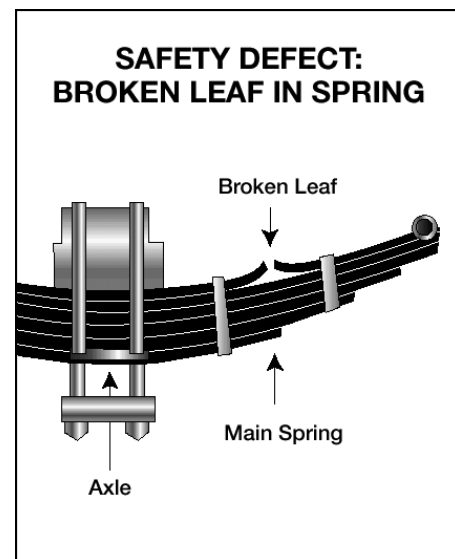

Figure 2.3
- Missing or broken leaves in any leaf spring. If one-fourth or more are missing, it will put the vehicle "out of service", but any defect could be dangerous. See *Figure 2.3*.